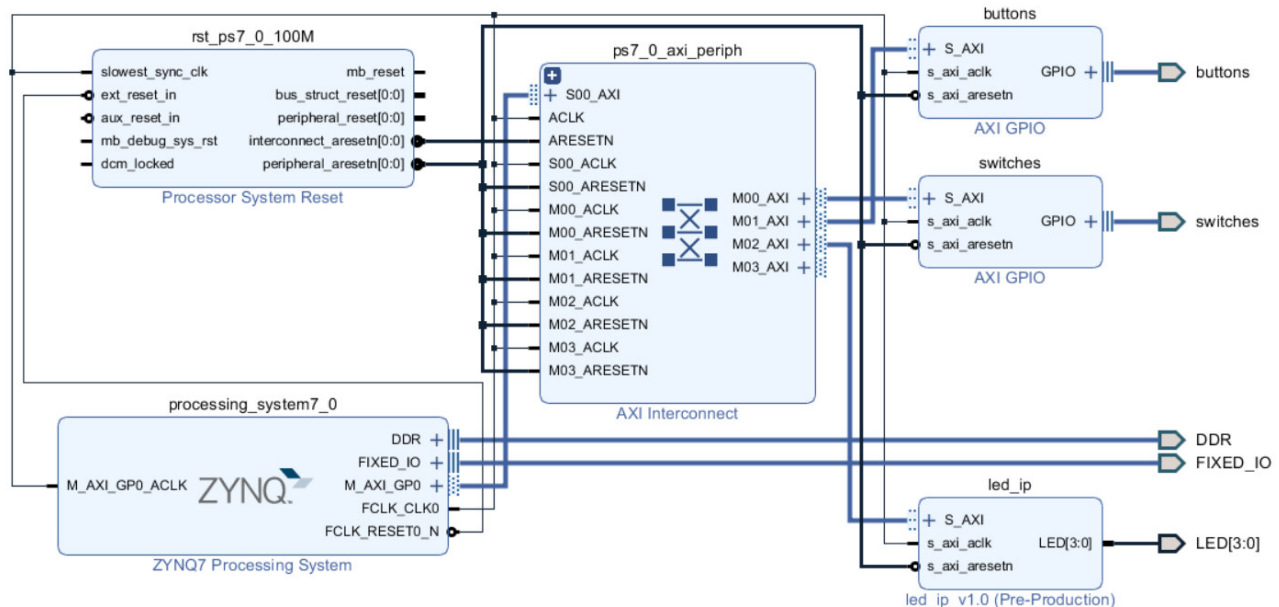

Figure 14: Block Diagram with the new LED IP
7. Next, click the **Regenerate Layout** button in the **Diagram** menu bar to arrange the block diagram to look like figure 14.